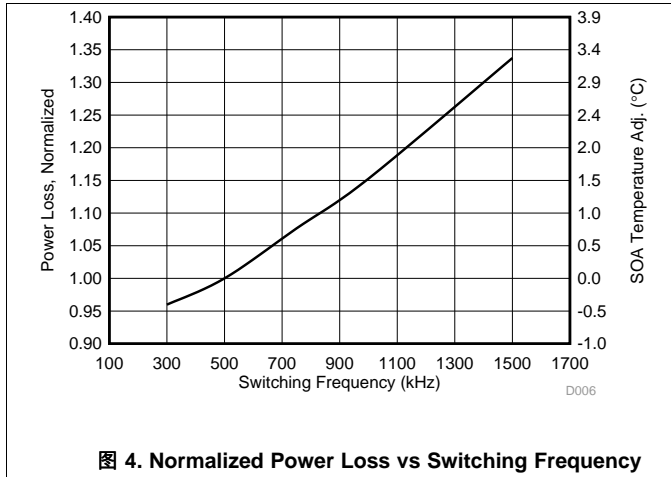

图 4. Normalized Power Loss vs Switching Frequency
- Normalized power loss for switching frequency  $\approx 1.08$  (图 4)
- SOA adjustment for switching frequency  $\approx 0.75^\circ\text{C}$  (图 4)